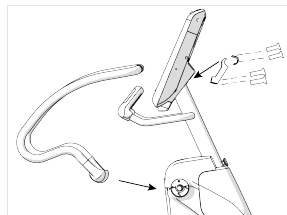

Figure 18
2. Install two screws **5** into the upper display (Figure 18).